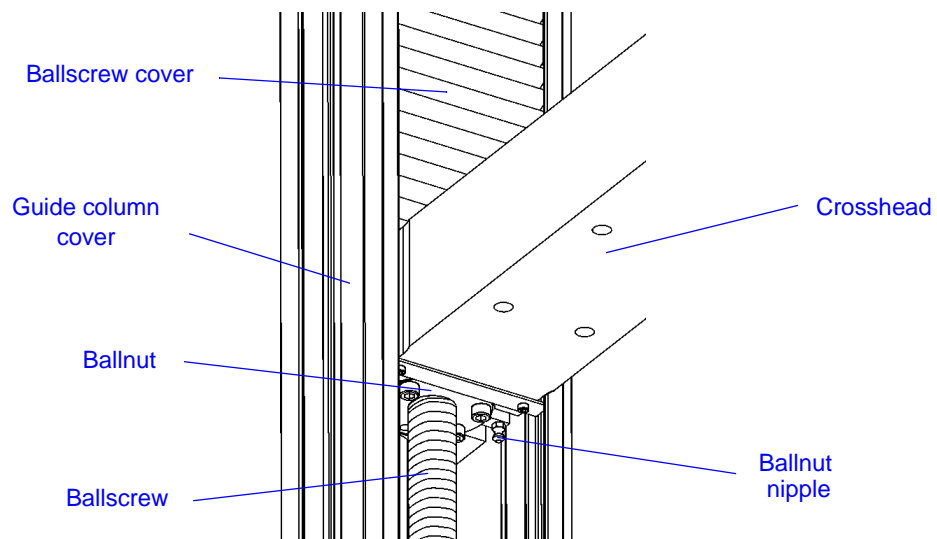

Figure 5-1. Ballscrew Lubrication Points
1. Turn the power switch to the Off (O) position and disconnect the power cable from the main power source. Verify that the **POWER** indicator light is not illuminating.
2. Detach the bottom ballscrew cover from the crosshead and slide it to the frame base. Refer to Figure 5-1 on page 5-6 to locate the ballnut nipple inside the column cover.
3. Use a grease gun to apply the grease through the ballnut nipples on both columns as shown in Figure 5-1. It is not necessary to remove the guide column covers.
6. Re-connect the power cable to the main power source and turn the power switch to the On (I) position. Verify that the **POWER** indicator light illuminates.